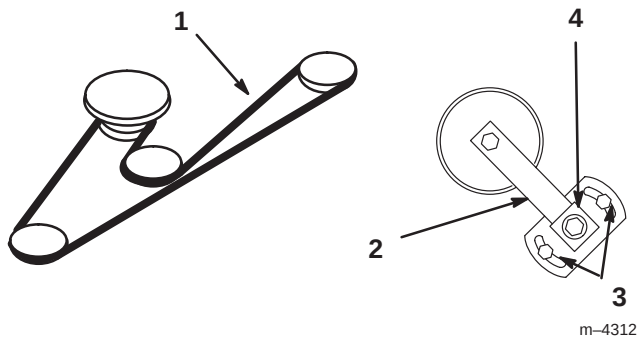

Figure 57
3. Loosen the two nuts securing the idler plate and move the idler arm to relieve the belt tension on the idler pulley; then remove the worn deck belt (Fig. 57).
4. Install the new deck belt around the spindle pulleys, belt guide, the idler pulley, and in the lower groove of the center spindle pulley (Fig. 57).